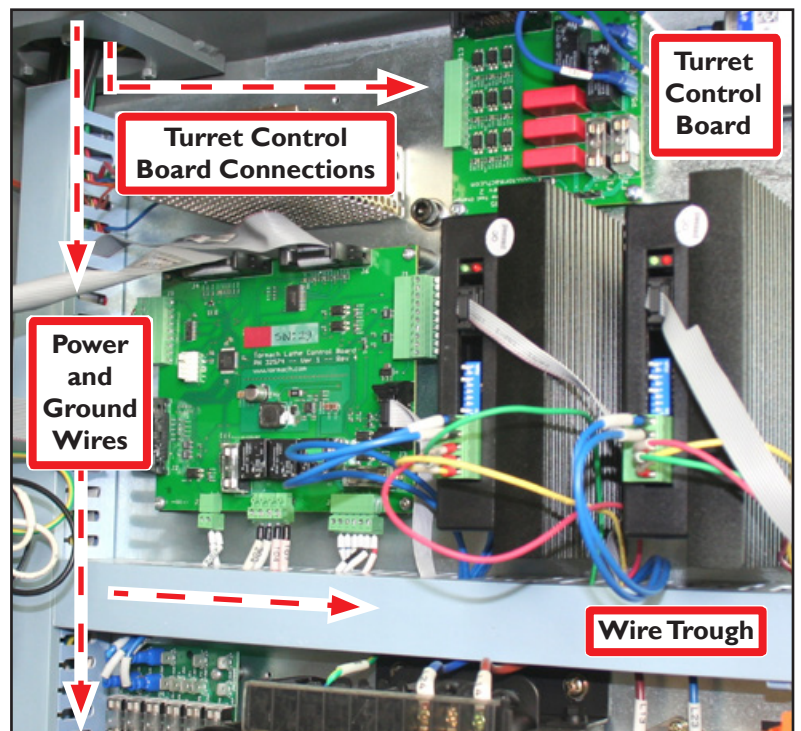

Figure 17
17. Route connections running to the Turret Control Board as shown in (see **Figure 17**).
18. Power and ground wires should be routed through the wire troughs (see **Figure 17**).
29. Secure all connections running to Turret Control Board (see **Figure 17**) to pre-drilled holes with 4" Cable Ties/Mounting Tabs.